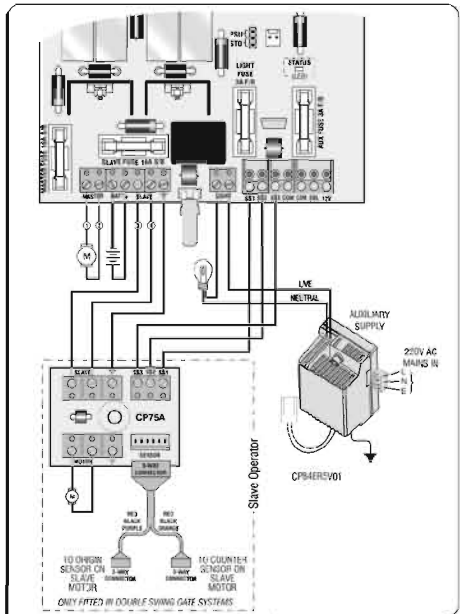

Figure 11 CP75 Controller Connections
- Connect all cables as required to the control card and battery charger (See Figure 11 & 12). (IM page 48 & 49)